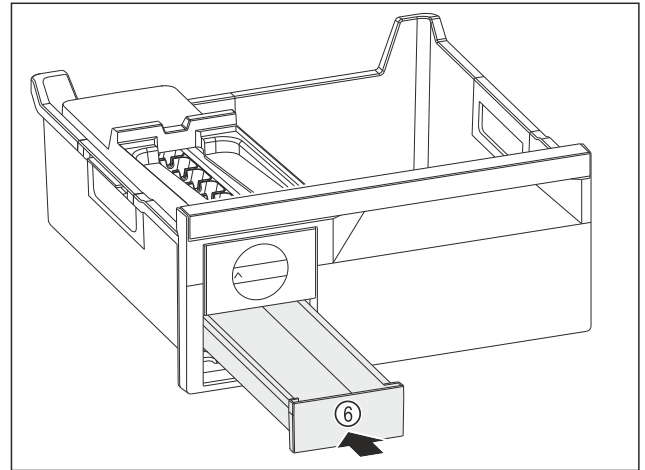

Fig. 129
- ▶ Insert the ice cube tray Fig. 129 (6).